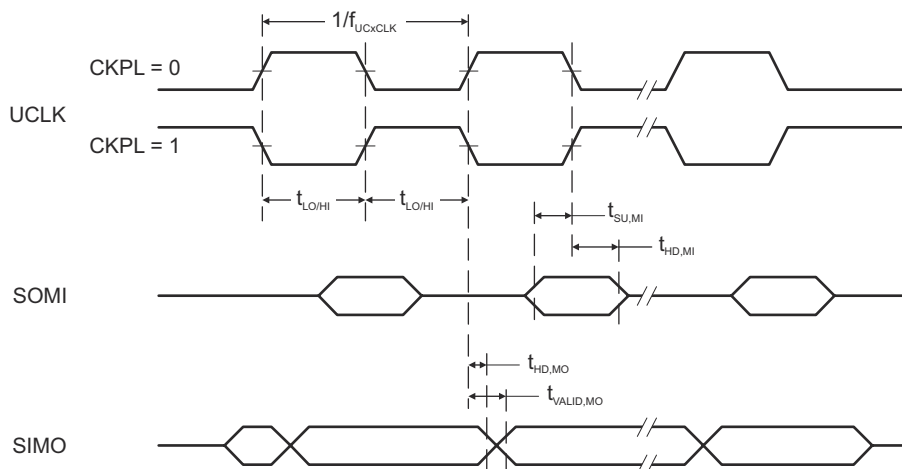
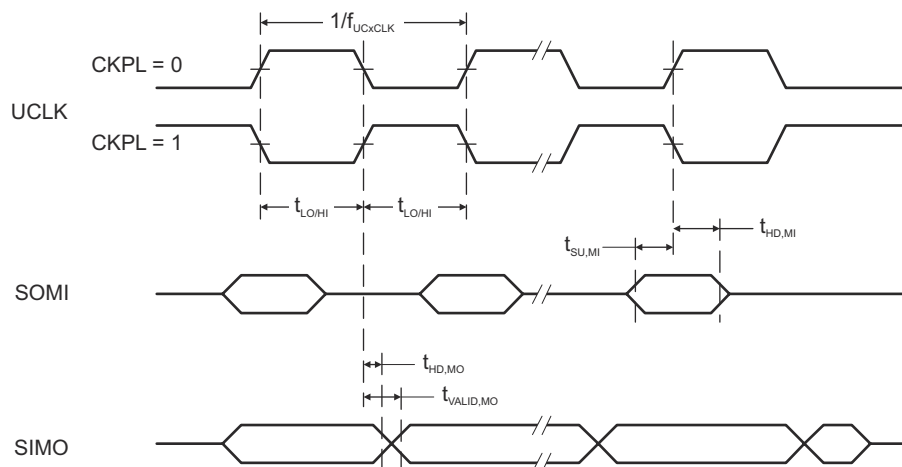

**Figure 8-11. SPI Master Mode, CKPH = 0**
**Figure 8-12. SPI Master Mode, CKPH = 1**
(see Figure 8-11 and Figure 8-12)
- (2) Specifies the time to drive the next valid data to the SIMO output after the output changing UCLK clock edge. See the timing diagrams in Figure 8-11 and Figure 8-12.
- (3) Specifies how long data on the SIMO output is valid after the output changing UCLK clock edge. Negative values indicate that the data on the SIMO output can become invalid before the output changing clock edge observed on UCLK. See the timing diagrams in Figure 8-11 and Figure 8-12.